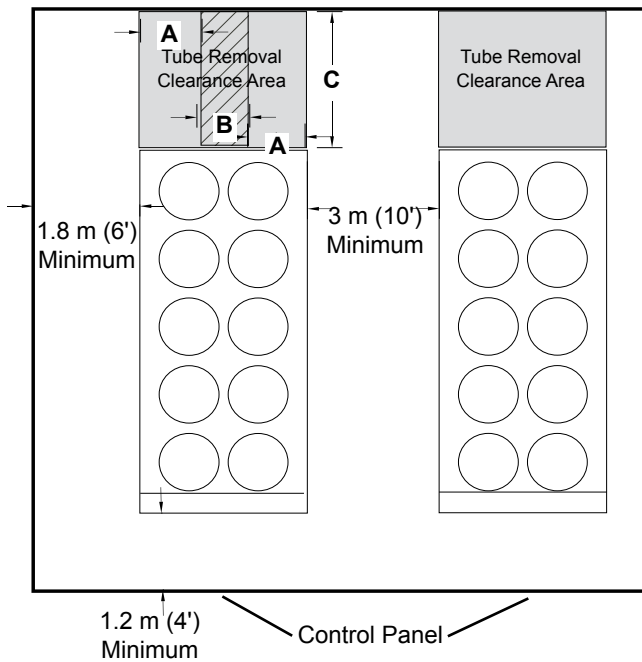

**FIGURE 4 - ACCEPTABLE MINIMUM CLEARANCES AROUND/BETWEEN UNIT(S)**
*Clearance dimensions provided in Figure 4 on page 38 and Table 2 on Page 38 are necessary to maintain good airflow and ensure correct unit operation. It is also necessary to consider access requirements for safe operation and maintenance of the unit and power and control panels. Local health and safety regulations, or practical considerations for service replacement of large components, may require larger clearances than those recommended.*